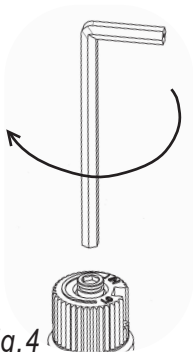

Fig.4
- 15) Using the Allen wrench as shown in Fig.4, rotate the screw clockwise until snug, do not overtighten.